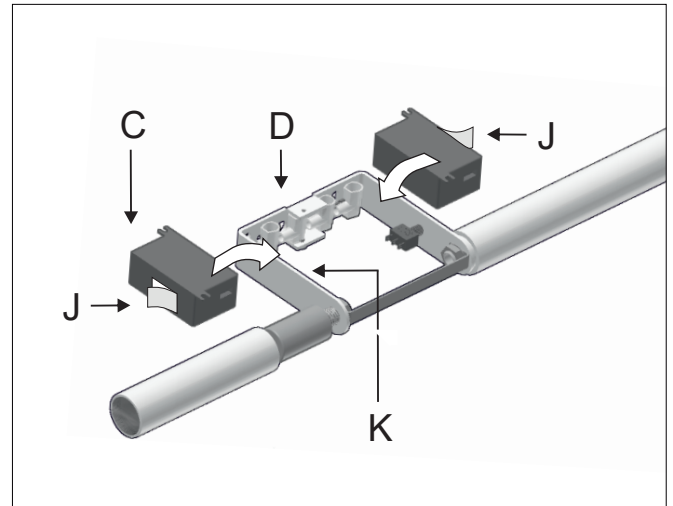

Figure 5
5 - Remove the protector from the double-faced adhesive tape (J) and fix the drivers (C) to interior the sides (K) of the mounting bracket (D). Try to leave them vertically centered so that the drivers do not protrude from the mounting brackets. Figure 5.